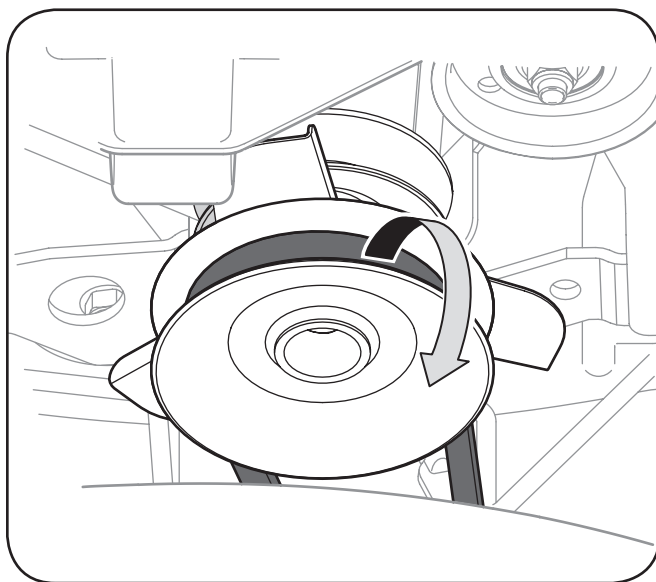

Figure 7-2
4. Remove the belt from around the tractor's PTO pulley. See Figure 7-2.
3. Remove the deck belt from around the unit's PTO drive pulley as shown in Figure 7-2. Simply roll one side of the belt off of the pulley and then work it off the pulley by continuing around the pulley until the belt is off of the pulley.
4. Pull the belt towards the front of the unit, pulling it through and out of the belt keeper rod, shown in Figure 7-2.
8. Feed the deck belt through the belt keeper rod and work it around and onto the PTO drive pulley as shown in Figure 7-2.